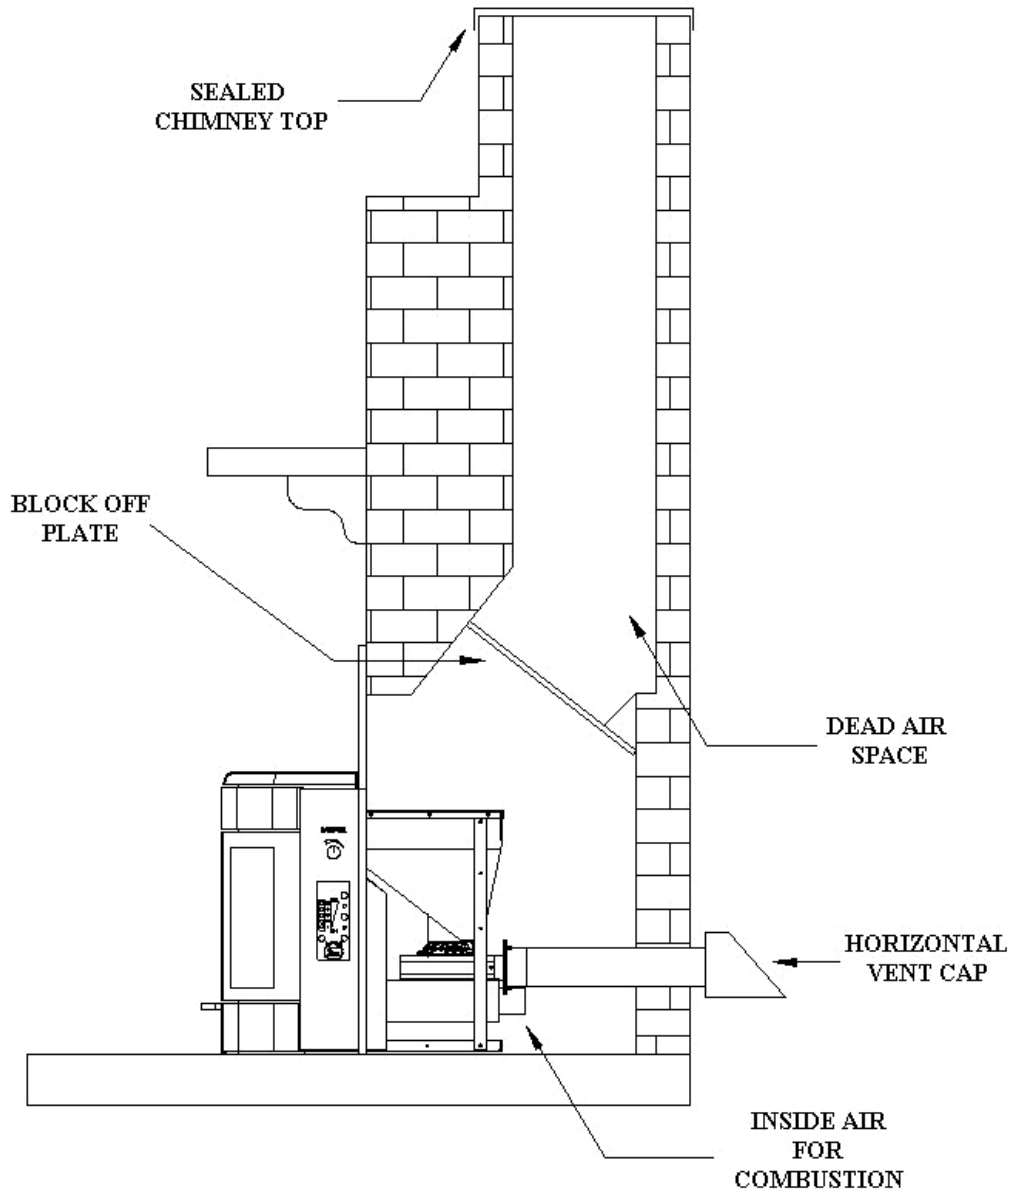

Figure 11
2. A unit installed in a Masonry fireplace may also be vented horizontally using 3” PL vent (*See Figure 11 on page 14*).